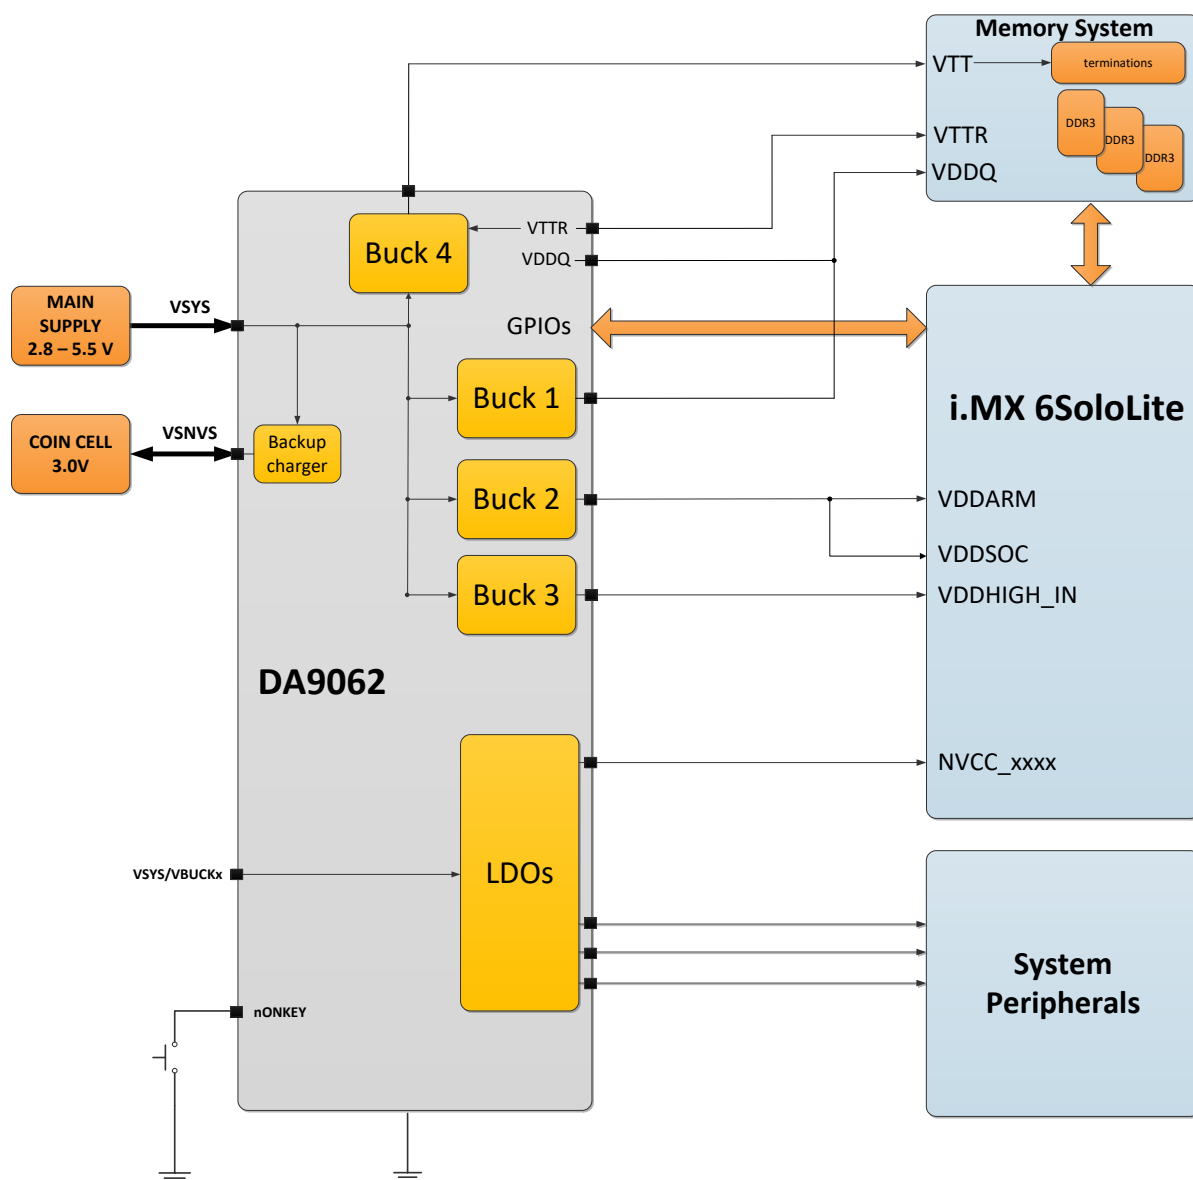
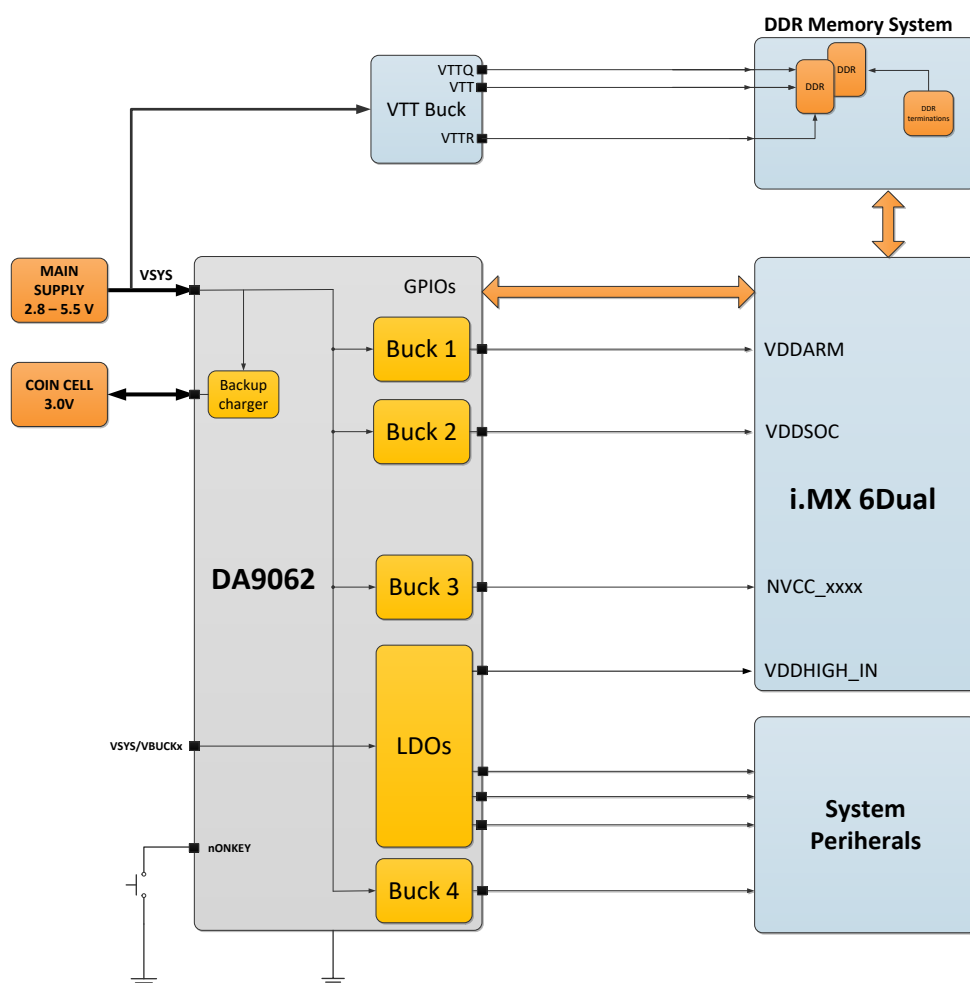

Figure 5: Conceptual Regulator Mapping for an i.MX 6SoloLite Processor Application
Figure 6: Conceptual Regulator Mapping for an i.MX 6Dual Processor Application
Examples of mapping for systems based on the NXP® i.MX 6SoloLite™ and 6Dual™ processors are illustrated in Figure 5 and Figure 6. These are conceptual mappings only as they do not consider peripheral rail requirements, type of memory, and so on. In the 6Dual solution, Buck4 has been used to drive peripherals, but could readily be used as the VTT supply. Where one or more additional regulators are required, potential solutions include:
- Use an external discrete switching regulator or LDO (as implemented in Figure 6 as a VTT buck).